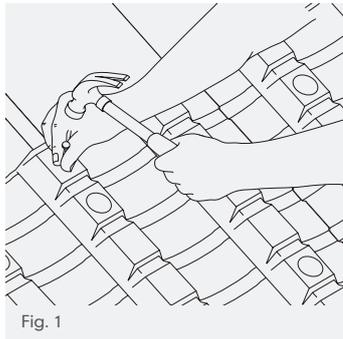

Fig. 1
- 2 Pull and adjust to correct rafter centres and twice nail, using 25mm long aluminium nails (Fig. 1, page 134).